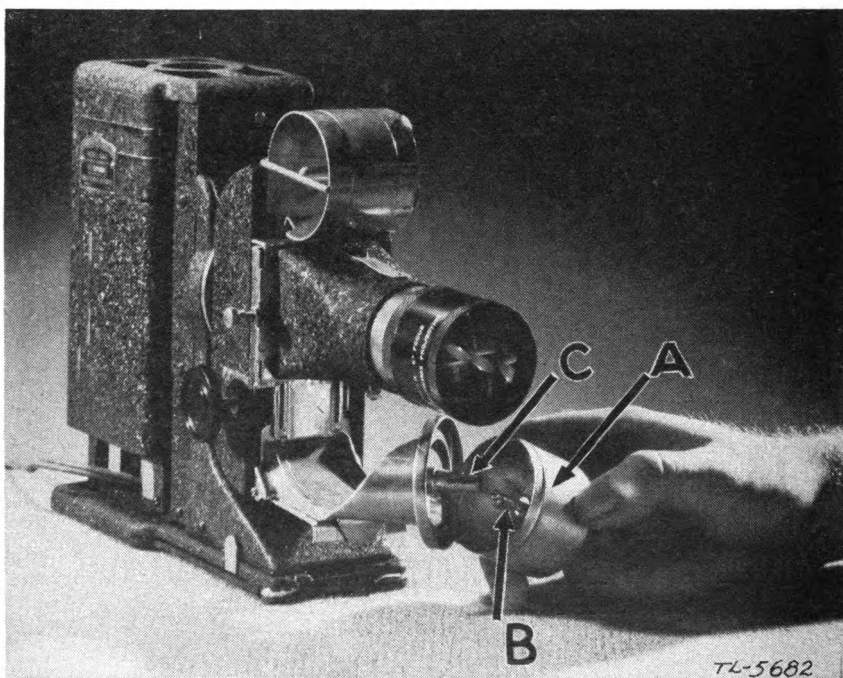

FIGURE 70.—Installing take-up can on projector PH-222.
**20. Threading.**—*a.* Place the take-up can *A* (fig. 70) in position by inserting stud *B* of the can in the bearing hole *C* at front end of take-up. Push can in until a slight snap is heard.